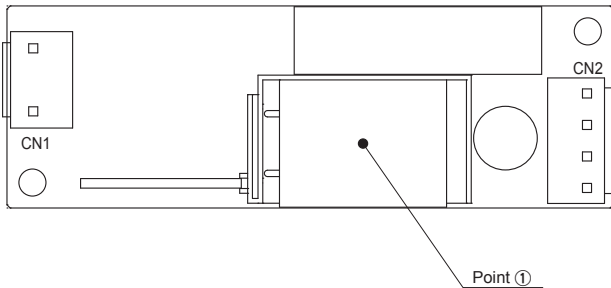

Fig.4.1 Temperature measurement point of TECS45F(Top View)
- Please have sufficient ventilation to keep the temperature of point ① in Fig.4.1 - 4.2 at Table4.1 - 4.2 or below. Please also make sure that the ambient temperature does not exceed 70°C.
- Please be careful of electric shock or earth leakage in case of temperature measurement, because Point ① is live potential.